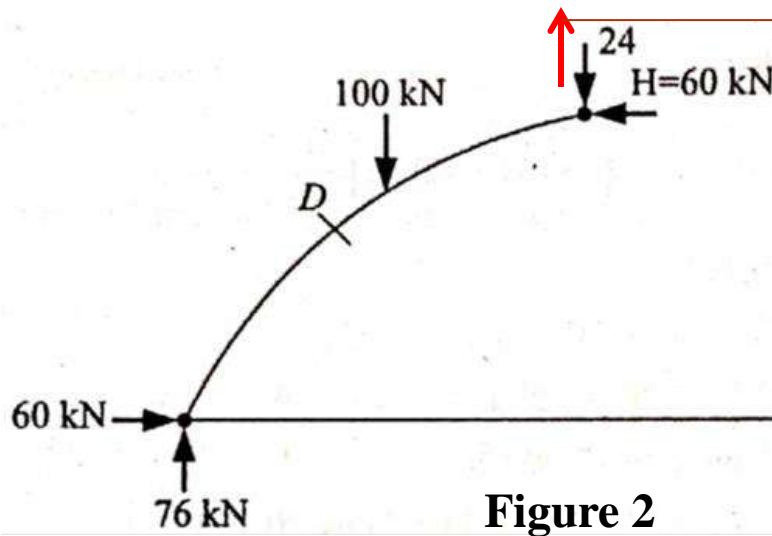

Figure 2
- Considering the equilibrium of the left half of the arch, the reaction at crown can be found from Figure 2.